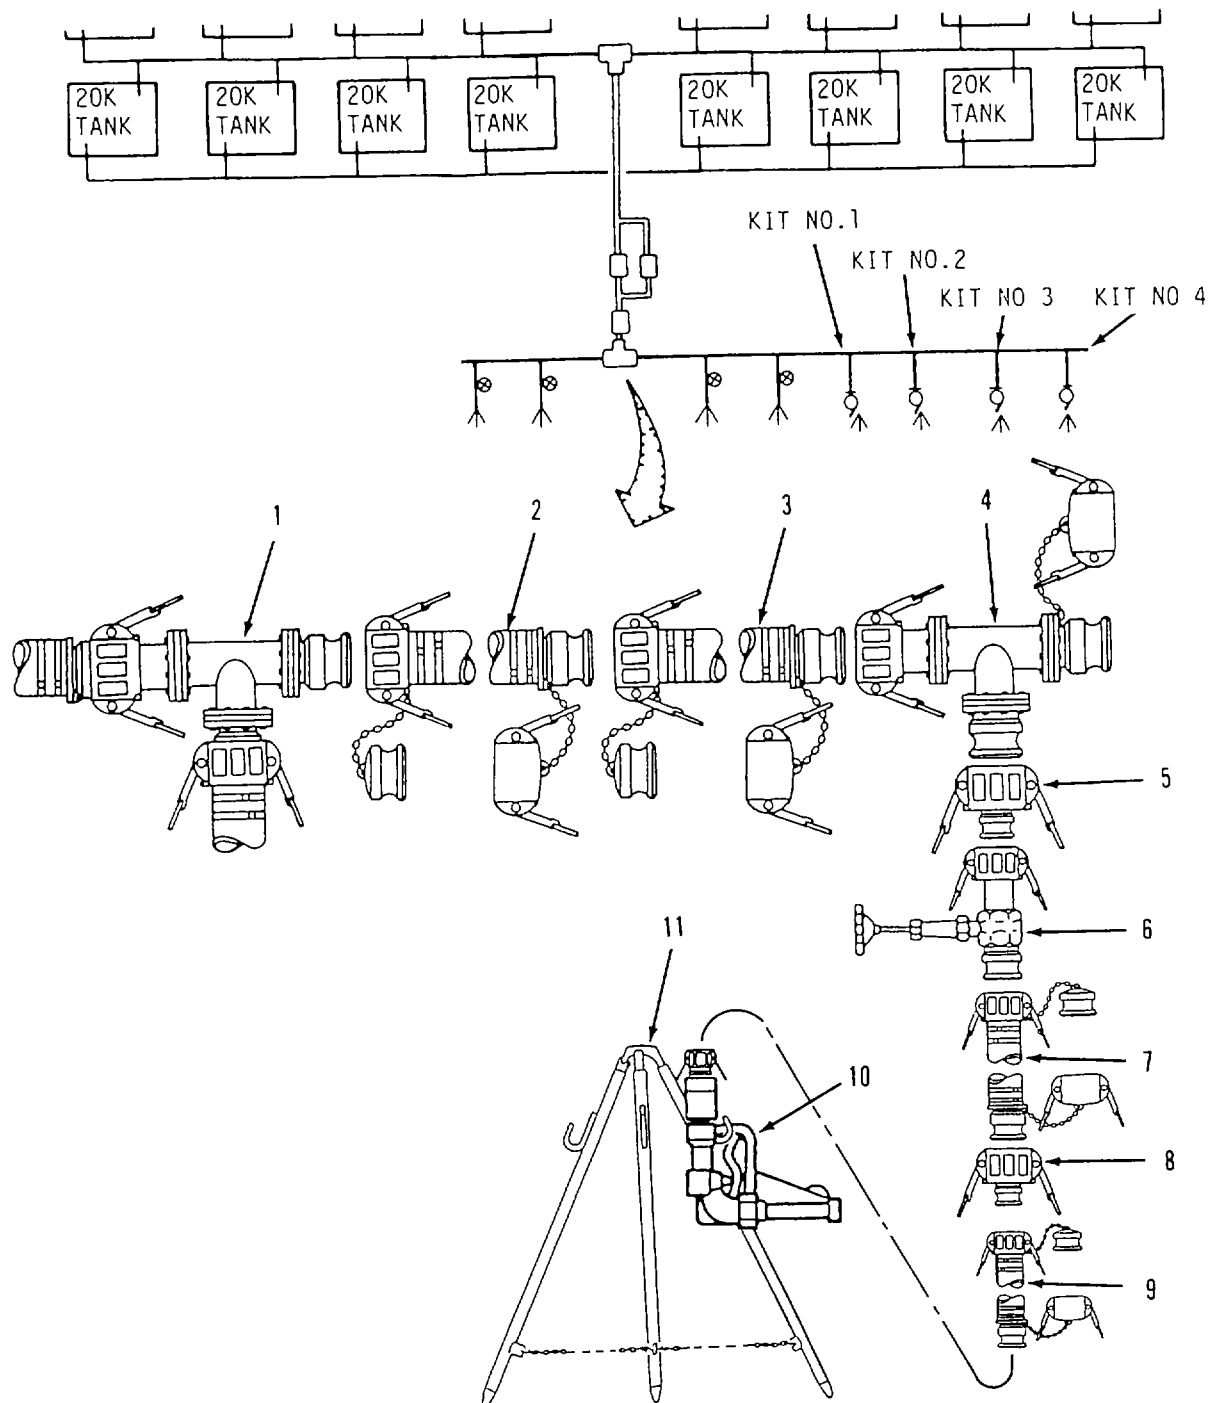

Figure 2-28. Hose Nozzle Connection Kit Disassembly.
- (14) Disconnect 4 inch x 20 foot discharge hose (3) from 4 inch x 20 foot discharge hose (2).
- (15) Disconnect 4 inch x 20 foot discharge hose (2) from tee (1) (from hose nozzle connection kit no 4).
- (16) Drain and allow components to dry.
- (17) Install caps and plugs on component couplings (para 2-10c).
- (18) Roll all discharge hoses and secure with tape.
d. Disassemble Hose Nozzle Connection Kits. Refer to figure 2-28.